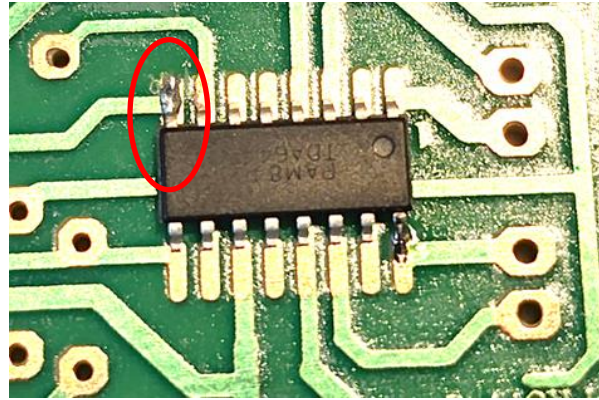

Fig 6. Solder the diagonally opposite corner leg so that the IC is now firmly held in place.
- When satisfied, solder the diagonally opposite leg, to hold the IC firmly in place. *(Refer to Figure 6)*